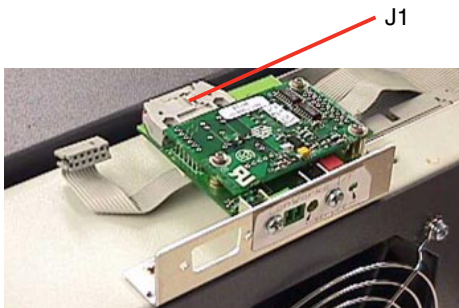

Figure G-6. Ribbon Cable Connected to J1 (Rack Mount Units)
- Connect the ribbon cable to J1 on the LonWorks interface as shown in Figure G-6.